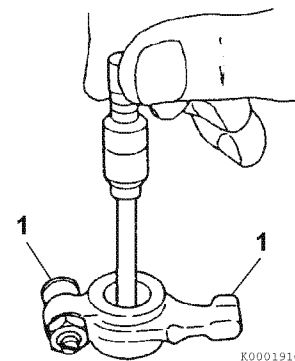

Figure 6-12
Use a telescoping gauge and micrometer to measure the inside diameter of all the rocker arm support brackets and the rocker arms (Figure 6-12). Record the measurements. See *Rocker Arm and Shaft* on page 6-6 for the service limit.
Inspect contact areas (Figure 6-12, (1)) for excessive wear or damage.